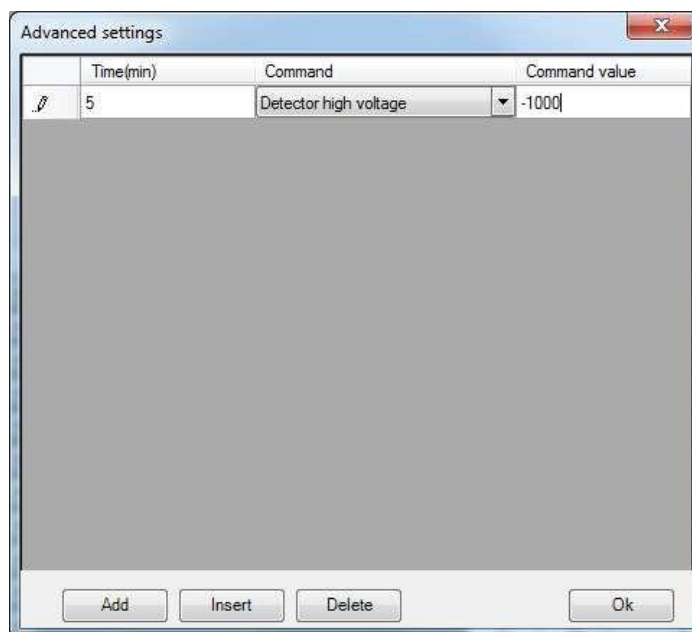

Figure 5-6
- (1) Click [Advanced Settings], click the advanced function during acquisition, as shown in Figure 5-6.
- (2) Set open/close and target value of the filament, tuning valve, detector HV, dynode HV in the dialog box of advanced settings.
- (3) Figure 5-6 implies that the detector HV will switch to -1000v from the fifth minute of sequence acquisition.